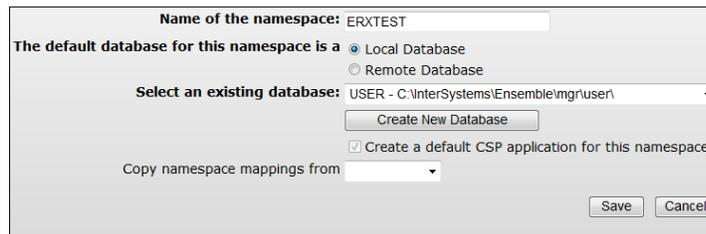

Figure 3-3: **Create New Namespace** dialog
4. Select **Create New Namespace** (Figure 3-3):